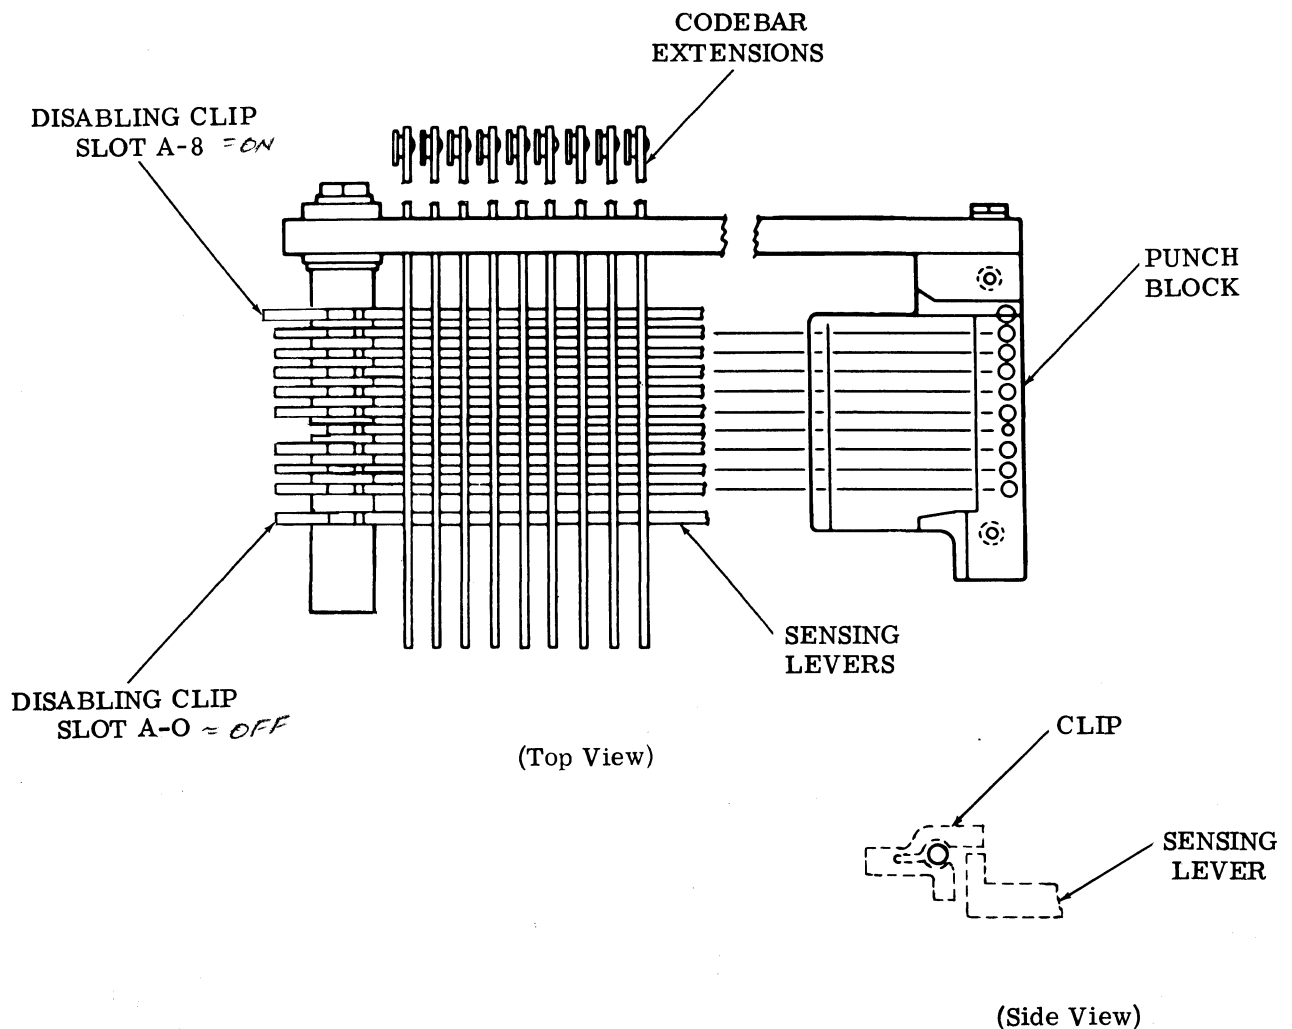

Figure 17 - Tape Punch Disabling Clips
6.01 The 33 Teletypewriter Sets are shipped with the tape punch having two disabling clips installed in slots A-O and A-8. If manual operation of the tape punch is desired, retain the two clips; if automatic operation is desired, remove the two clips. See Figure 17.